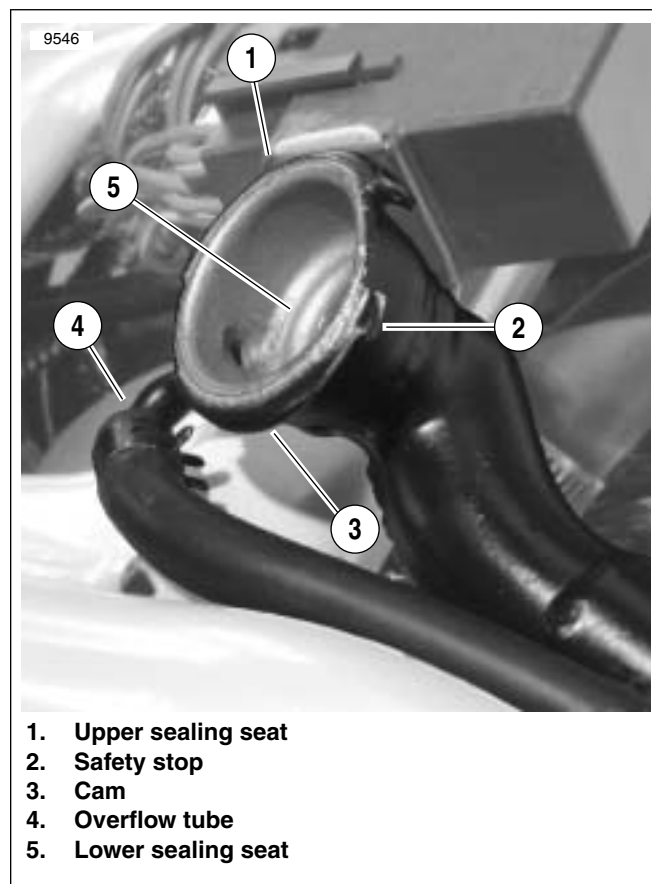

Figure 6-3. Filler Neck
1. See Figure 6-3. Using a cloth over pressure cap, turn cap 1/4 turn counterclockwise (CCW) to safety stop (2). Let pressure escape. Press down and turn cap to pass over safety stops and remove.
3. See Figure 6-3. Clean and inspect filler neck, upper (1) and lower (5) sealing seats, overflow tube (4), and overflow bottle.